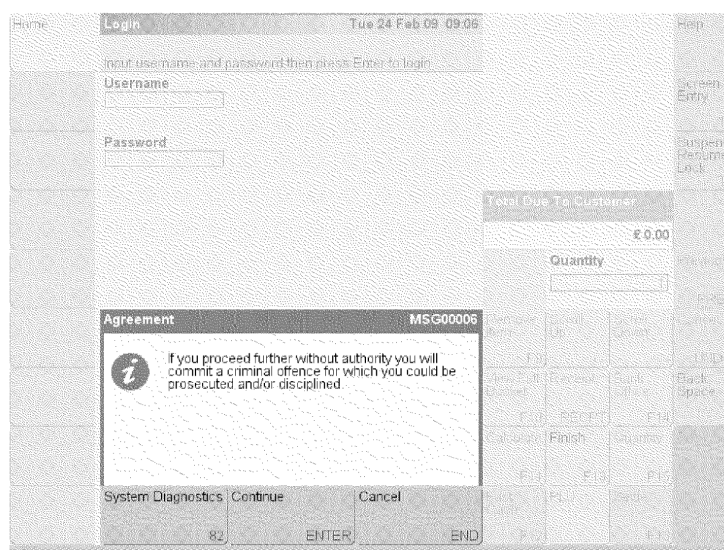
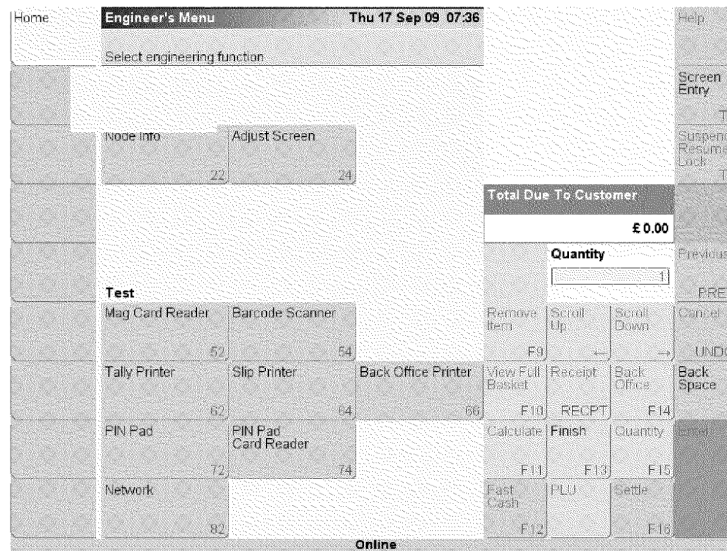

Figure 2
Figure 3
- 5) To shut down the counter “Cancel” the Network test and the press “Finish” see *Figure 3* above. This will return you to the “grey” screen. Touch the screen and then press System Diagnostics see *figure 2* above. Then press “Manage Application as below